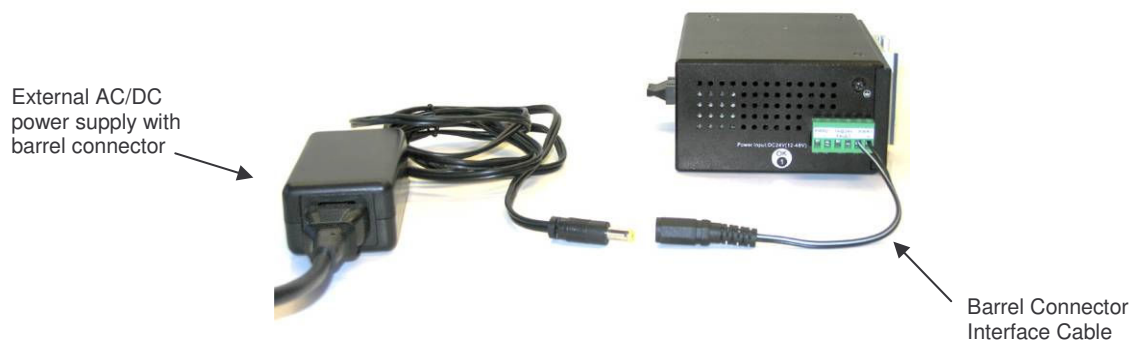

Figure 11: Barrel Connector Interface Cable with external power supply
7.	Insert barrel connector into the receptacle on the interface cable. See Figure 11.